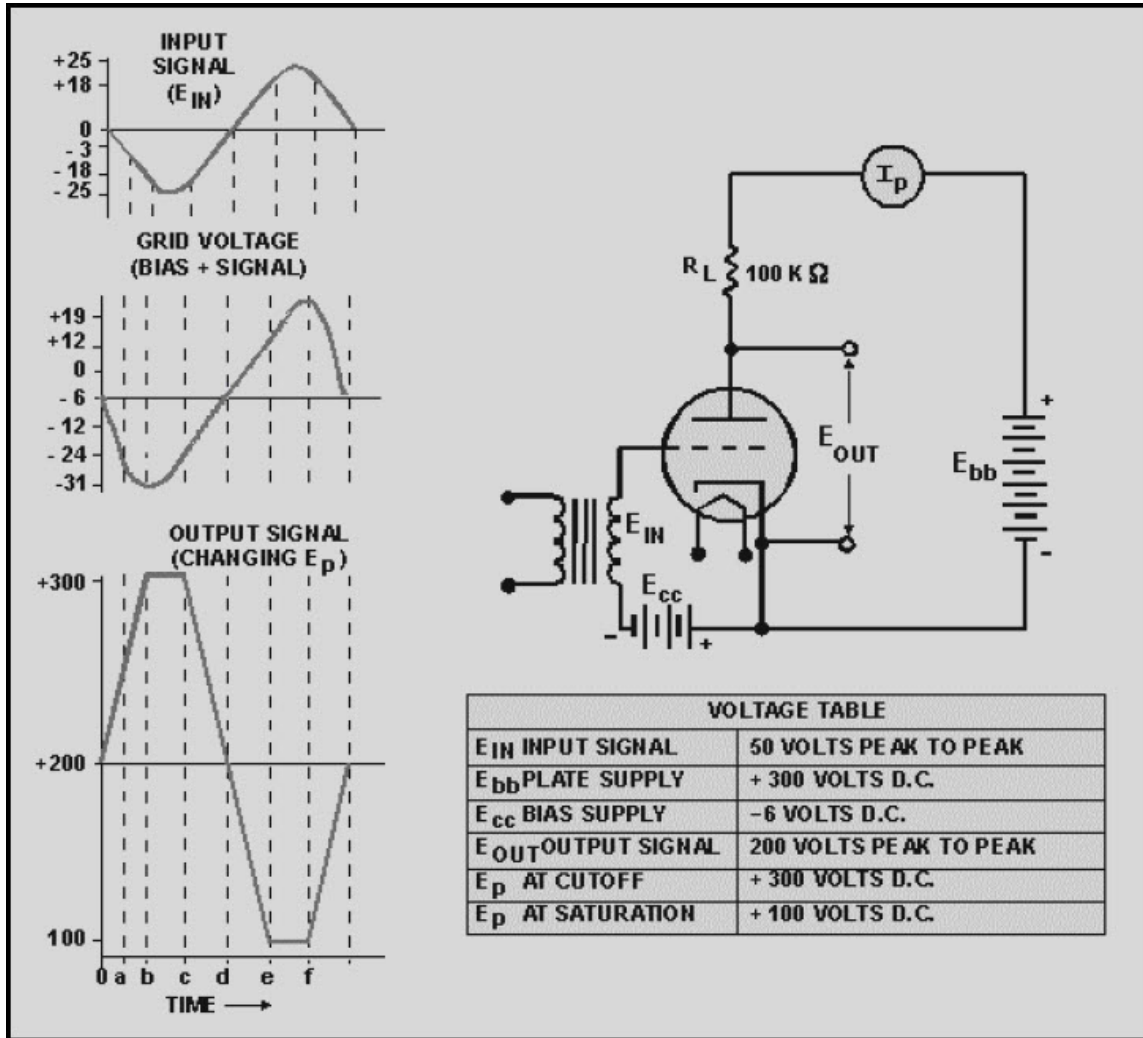

Figure 1-20 Overdriven triode
Look at time zero (0) in the waveforms of figure 1-20. The input signal (E_{in}) is at zero volts. Grid voltage equals the bias voltage (-6 volts), and one milliampere of current is flowing through the tube (quiescent state). Plate voltage (E_p) is 200 volts.
voltage. What has happened in this circuit is that C_c and R_g , through the use of unequal charge and discharge paths, have acted to change the ac input to a negative dc voltage. The extent of the bias on the grid will depend on three things: the amplitude of the input, the frequency of the input, and the size of R_g and C_c . This type of biasing has the advantage of being directly related to the amplitude of the input signal. If the amplitude increases, biasing increases in step with it. The main limiting factor is the amount of distortion that you may be willing to tolerate. Distortion occurs during the positive alternation when the grid draws current. Current drawn from the electron stream by the grid never reaches the plate; therefore the negative-going output is not a faithful reproduction of the input, while the positive-going output (during the negative input cycle) will be a faithful reproduction of the input. This is similar to the situation shown in the flat-topped portion of the output signal in figure 1-20.